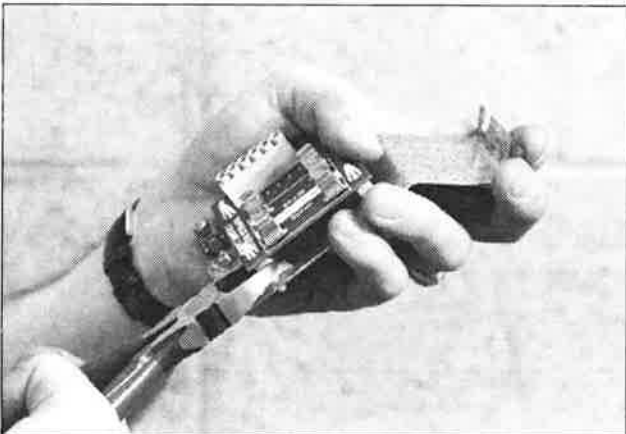

FIGURE 17
1. After removing the printed circuit board (P.C. Board) bracket assembly from the control enclosure, separate the P.C. Board from the bracket by cutting off the plastic spacers (see Figure 17).